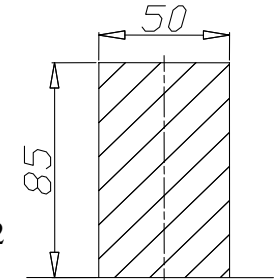

Fig. 2
2. Put side brackets (pos. 5 and 6) and fix loosely using bolts M12x35mm (pos. 8) - in points A, through washers (pos. 4) and original holes in chassis members.
3. Fix main bar of the towbar (pos. 1) to installed brackets using bolts M12x35mm (pos. 8) through holes B.
4. Through original holes in rear slice and holes in the towbar construction fix bolts M10x30mm (pos. 9)
5. Reassemble the bumper after cut out its fragment according to figure 2.
6. Fix tow-ball (pos. 2) and socket plate (pos. 3) using bolts M12 x 75 mm (pos. 7) from accessories.